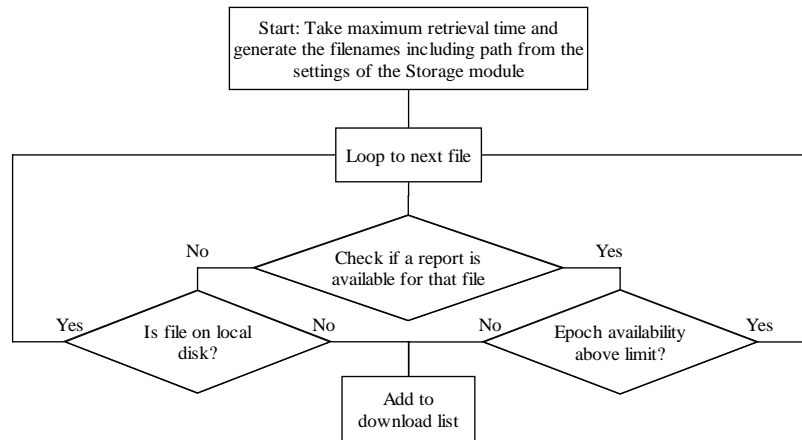

Figure 7.1 Checks and actions during Storage Integrity startup
If the test passes and the module has connected to a storage module, it checks with every startup of the system all files during the retrieval time starting with the oldest one following Figure 7.1.
- At startup it defines the time period, for which the data files are checked (see the flow chart in Figure 7.1).